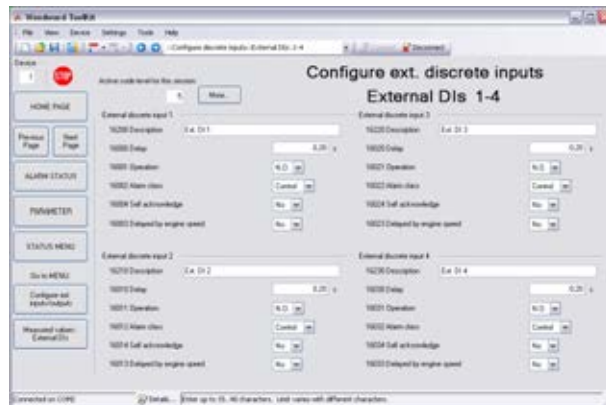

Fig. 194: Setup of external DIs
- ➔ Set up the external discrete inputs using the Toolkit screen shown in (Fig. 194).